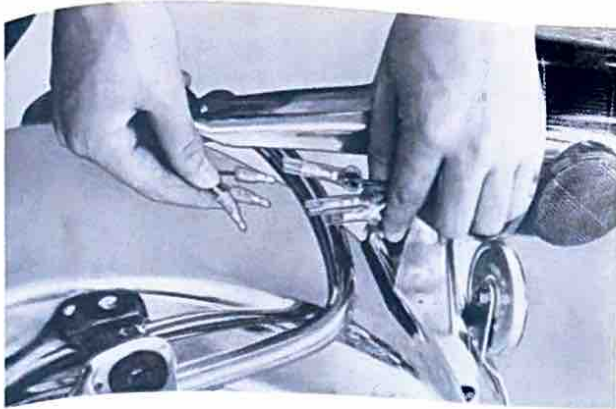

Fig. 40
32. Connect the lead wires of the taillight assembly and secure them with the hook. (The lead wire of identical color must be connected to each other.) (Fig. 40)